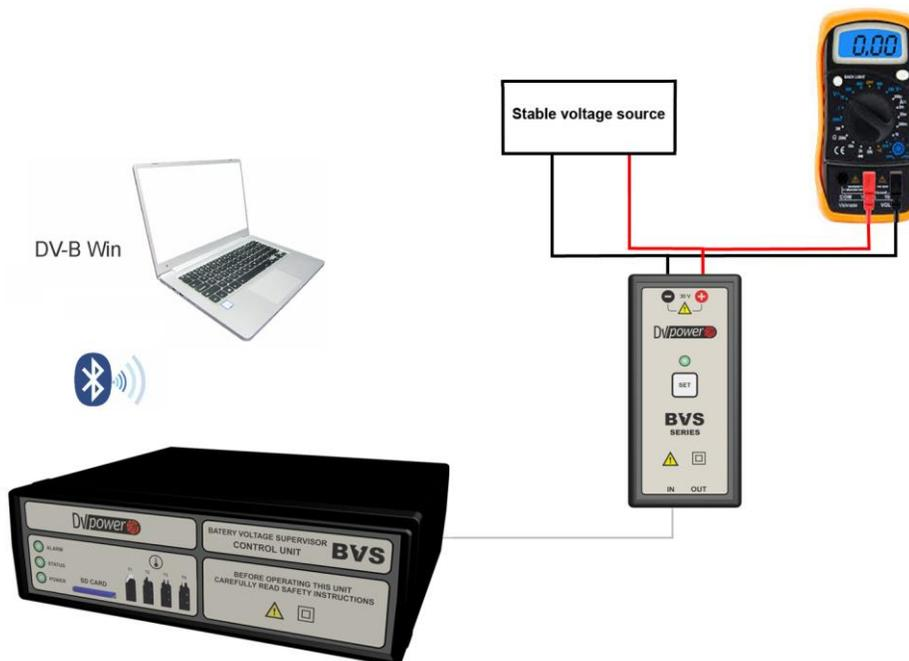

Figure 5-1. Measurement check of CVM V channel
1. Connect a stable voltage source and a reference voltmeter to CVM, as shown in figure 5-1.
To check voltage measurement of the string voltage module, voltage values from table 5-2 should be used. The connection of SVM is the same as for 30 V measurement check of CVM, as shown in figure 5-1.
To check measurement of the string current module SCM, a stable mV source should be used. The connection to SCM is the same as for CVM, as shown in figure 5-1. Voltage values that should be used are given in table 5-3.